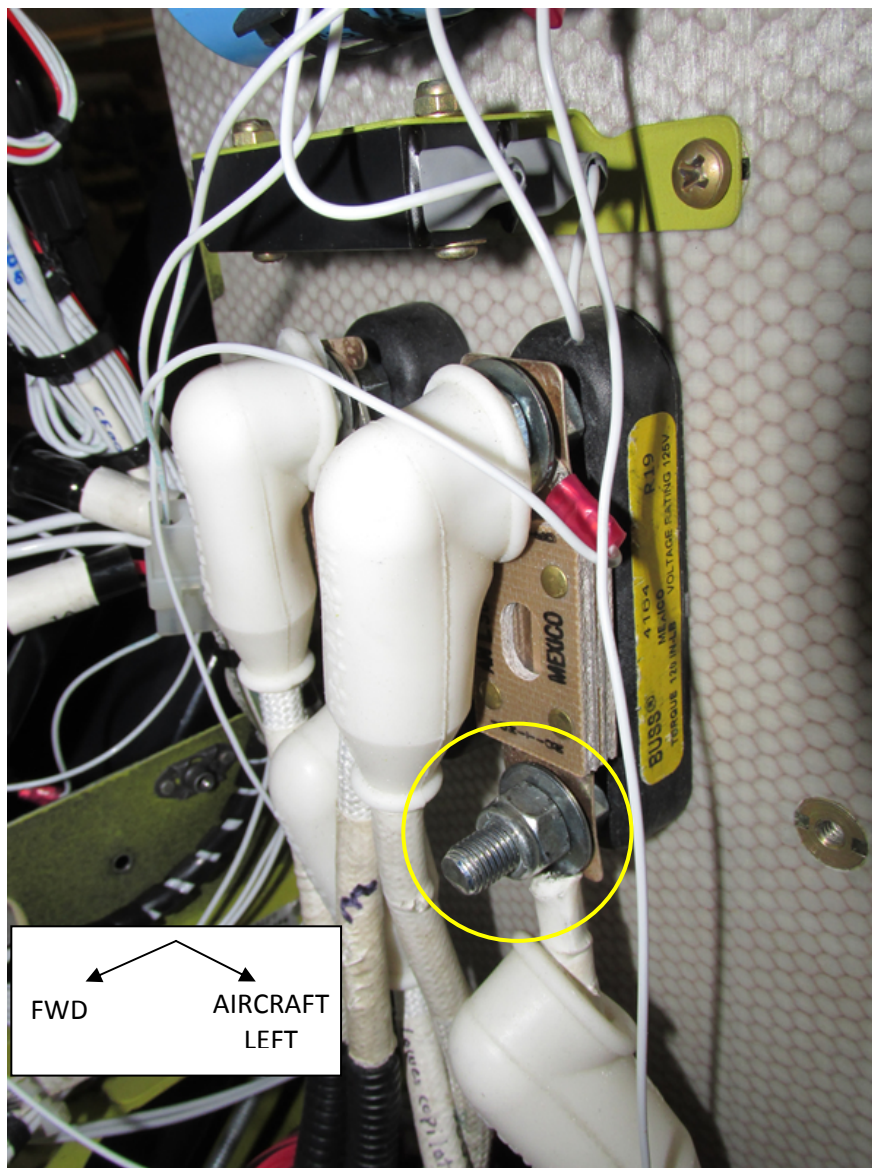

Figure 5-8: Exposed Fuse Block Terminal
16. Remove the protective boot over the PD028 cable connection to the 50 AMP fuse on the fuse block. See **Figure 5-8**.